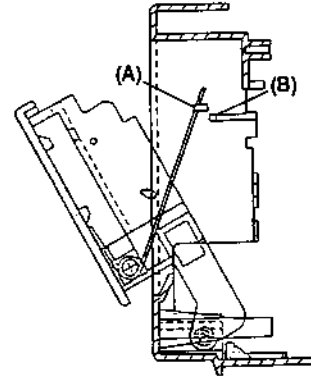

Fig. 8-1
Set the door spring of DECK 1 side to position (A) as shown in Fig. 8-1. Then, erect the front panel assembly vertically.